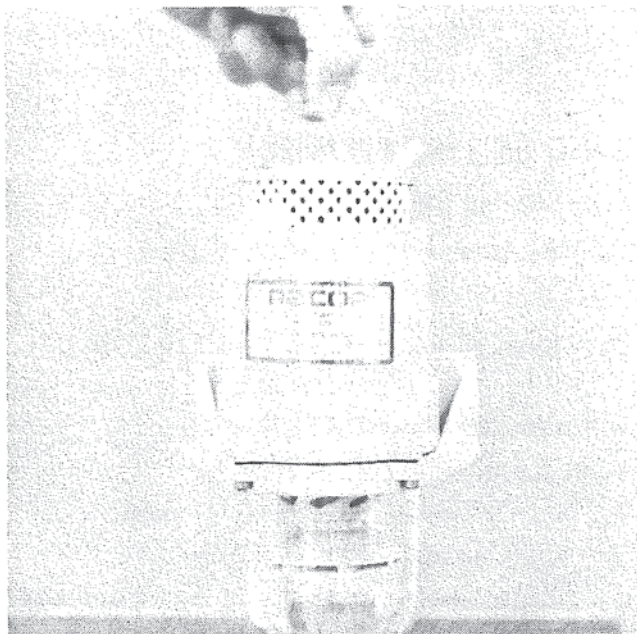

Figure 7. Replacing Element.
2. Grip bale on element and remove element. Figure 7.